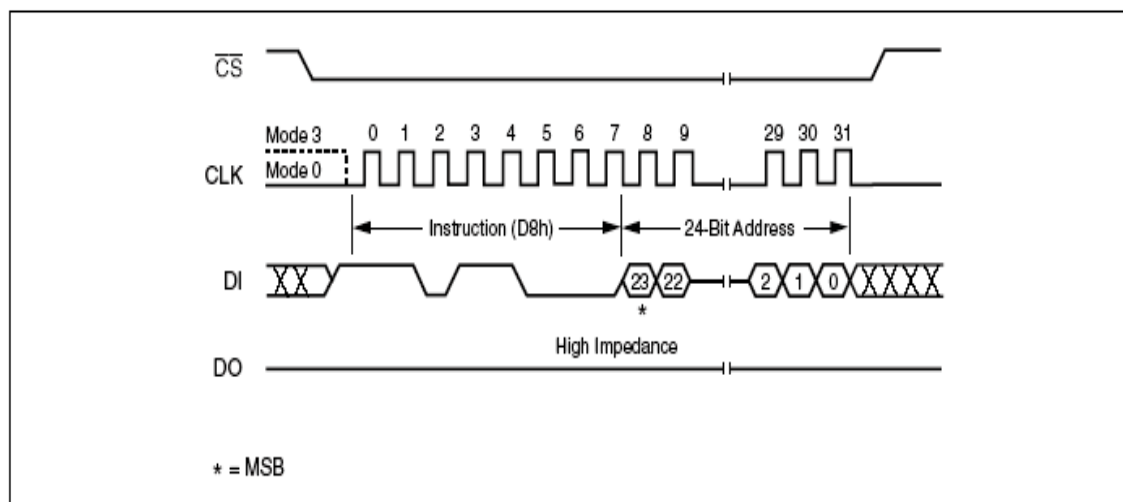

Figure 13 Block Erase Instruction Sequence Diagram
The instruction sequence is shown in Figure 13. Chip Select (CS#) must be driven High after the eighth bit of the last address byte has been latched in, otherwise the Block Erase (BE) instruction is not executed. As soon as Chip Select (CS#) is driven High, the self-timed Block Erase cycle (whose duration is t_{BE}) is initiated. While the Block Erase cycle is in progress, the Status Register may be read to check the value of the Write In Progress (WIP) bit. The Write In Progress (WIP) bit is 1 during the self-timed Block Erase cycle, and is 0 when it is completed. At some unspecified time before the cycle is completed, the Write Enable Latch (WEL) bit is reset.